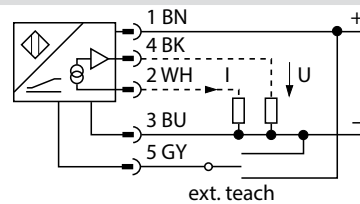

Fig. 4: Pin layout and wiring diagram
- Connect the sensor as per Figure 4.